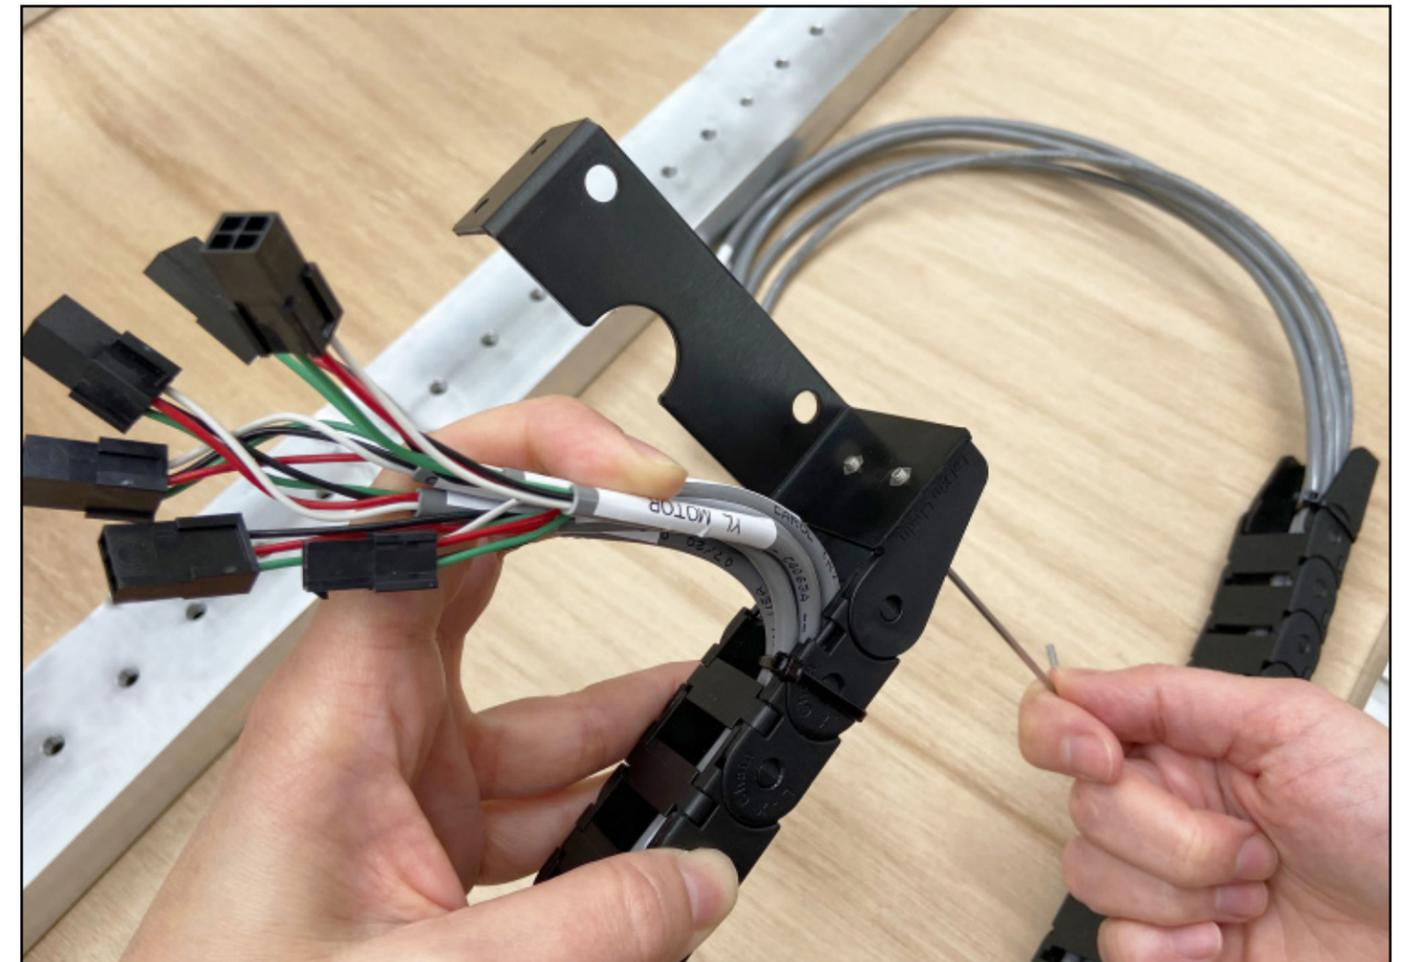

Figure 6-4
1. Position the Z-shaped X/Y transition bracket on the head of the Y-Axis drag chain. See **Fig. 6-4**.
2. Use a 2mm hex key and two (2) M3×6mm BHCS to secure the bracket. Fully tighten.